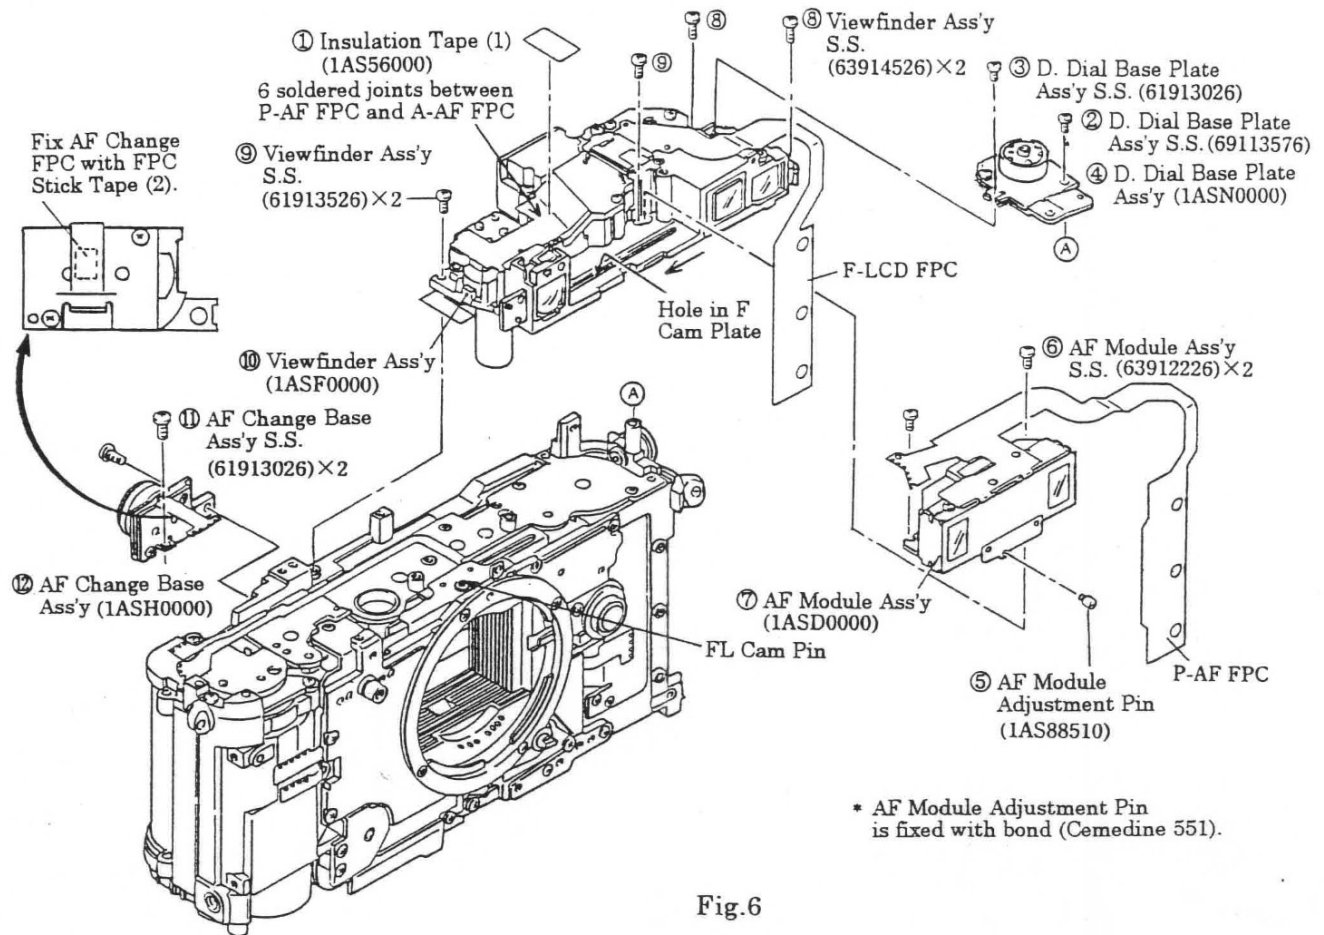

Fig.6
(See Fig. 6)
- 1) Peel off ① Insulation Tape (1AS56000).
- 3) Remove parts in the numerical order of ② to ⑫ shown in Fig. 6.
- a) While pushing the F Cam Plate fully in the direction of the arrow (toward WIDE side) as shown in Fig. 6, install the Viewfinder Ass'y on the Body so that the FL Cam Pin enters the hole in the F Cam Plate.